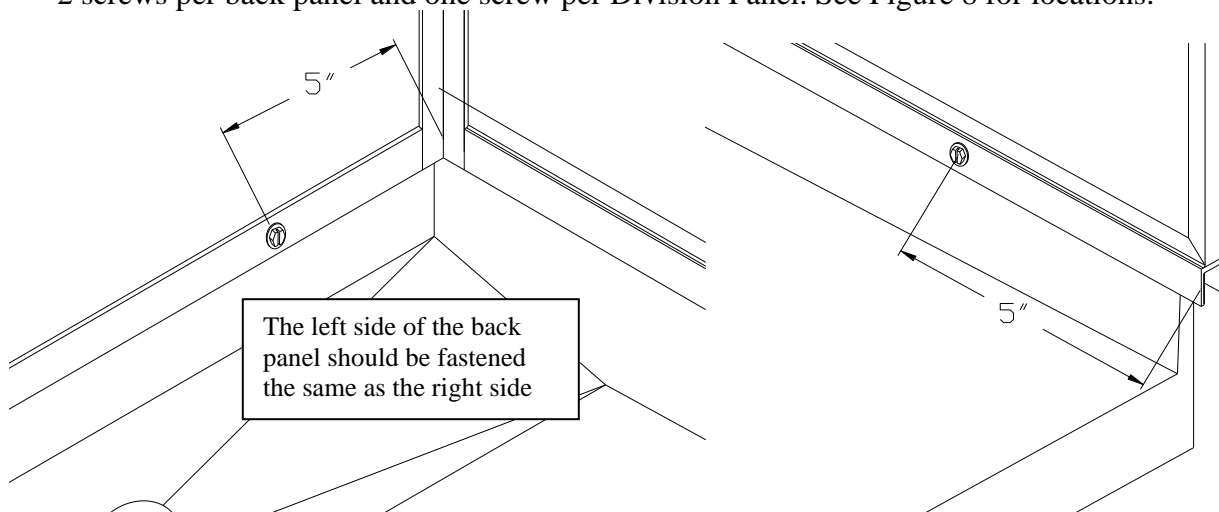

Figure 8
5. Screw the division panels and back panels to the base units using #10 x 5/8" TEK hex washer head sheet metal screws (#2222). These screws are self drilling and do not require pilot holes. Use 2 screws per back panel and one screw per Division Panel. See Figure 8 for locations.